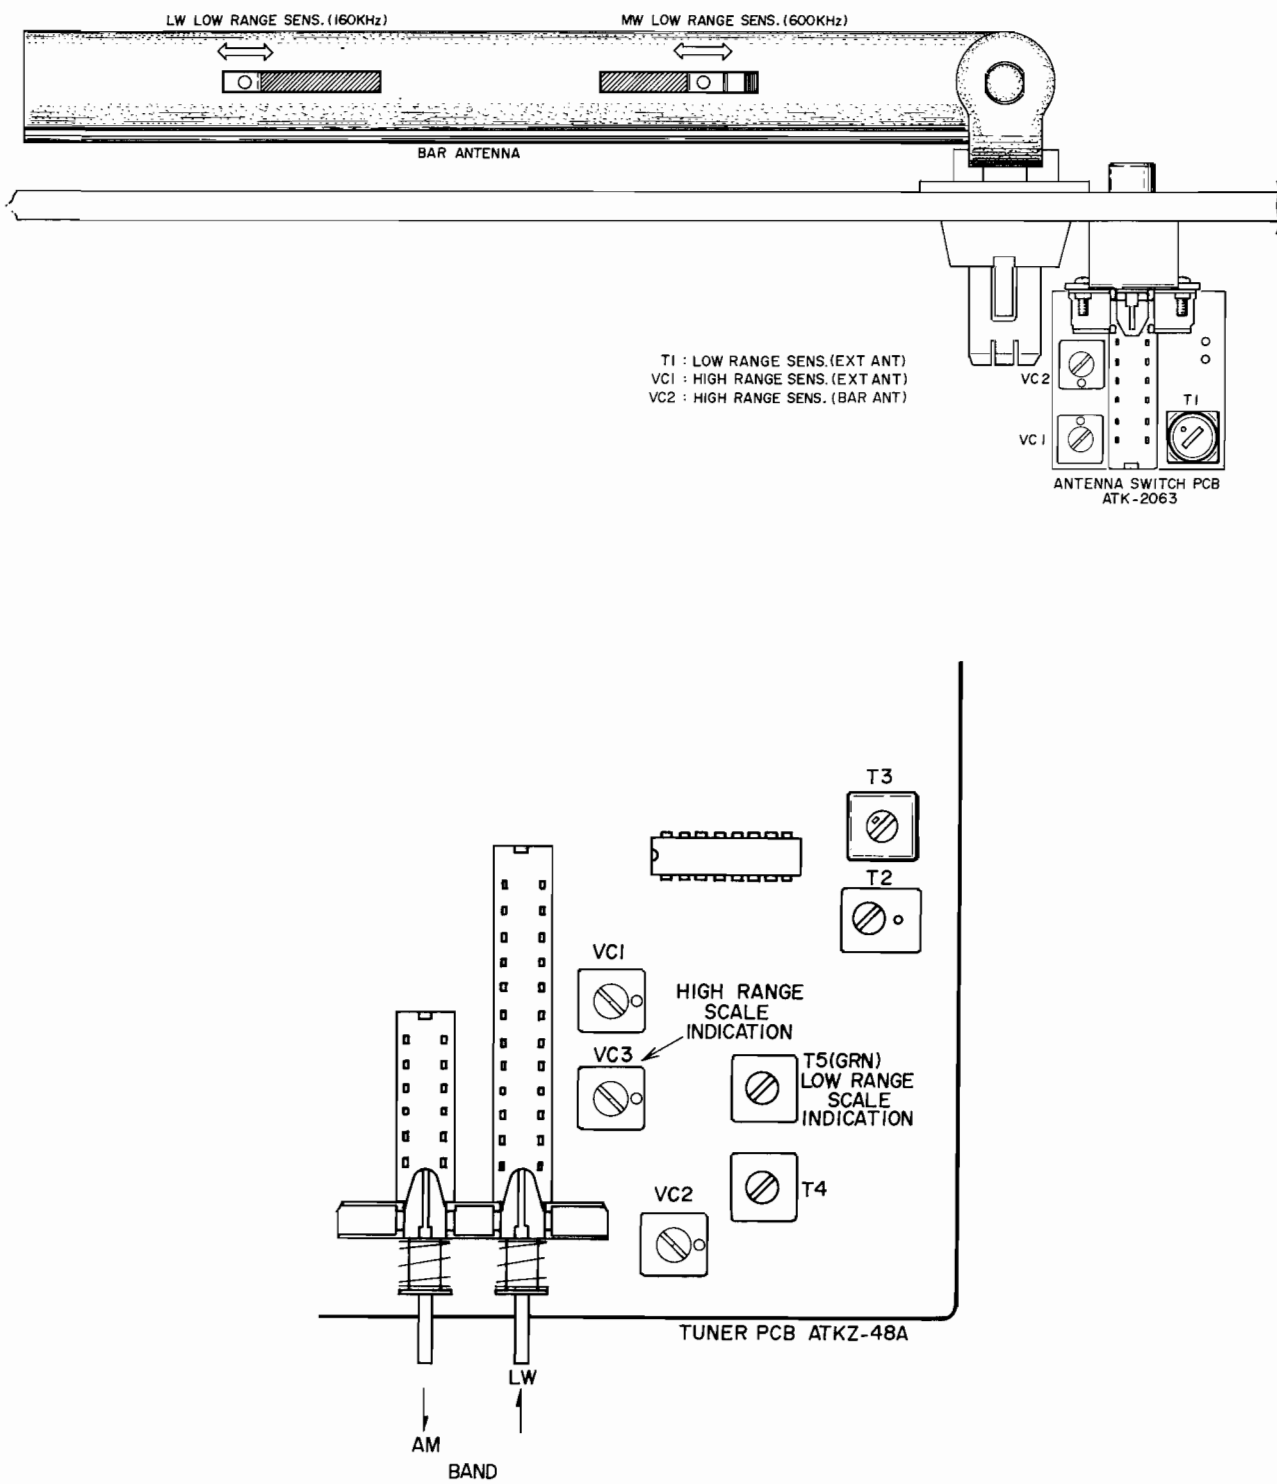

Fig. 6 Tuner P.C Board ATKZ-48A and Antenna Switch P.C Board ATK-2063 (Model AT-K33L)
3. LW SECTION ADJUSTMENTS (AT-K33L Only; Refer to Figs. 6, 9, 10)